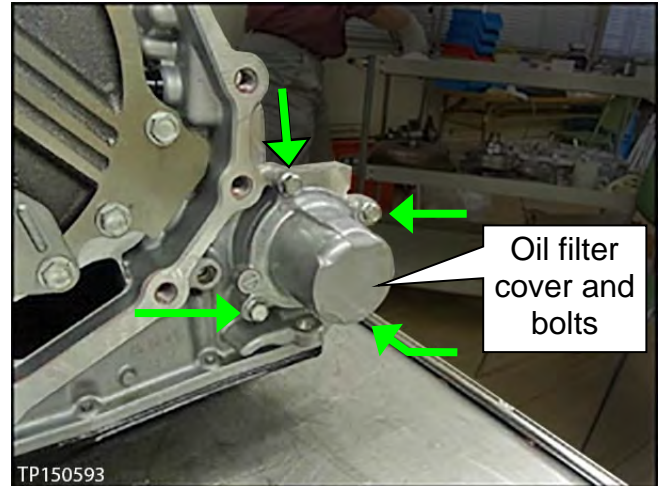

Figure 42
1. Remove the four (4) bolts, and then remove the CVT fluid filter cover (see Figure 42).